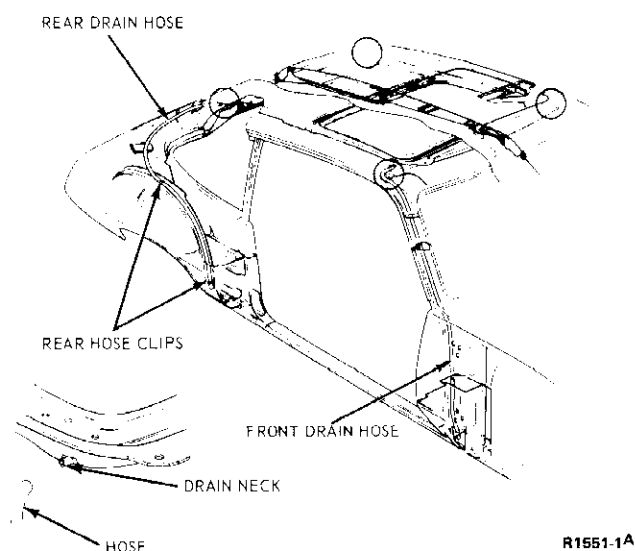

FIG. 10 Roof Drainage System
4. Disconnect the four drain hoses (Fig. 10).
To replace front drain hose, the headlining assembly must be lowered at the windshield header area for access. Disconnect the hose from the roof front drain neck (Fig. 10). Remove the cowl side trim panel for access to the lower end of the hose. Attach the replacement hose to the lower end of the existing hose. Pull the new hose into place from below, as the existing hose is pulled out at the top.
To replace a rear drain hose, pull the headlining down from the affected corner of the roof panel for access. Then disconnect the hose from the roof rear drain neck (Fig. 10). Remove the quarter trim panel for access to the lower end of the hose. Attach the replacement hose to the lower end of the existing hose, and remove the retaining clips. The new hose can then be pulled into place from below, as the existing hose is pulled out at the top. Secure the new hose with the retaining clips before installing the quarter panel.